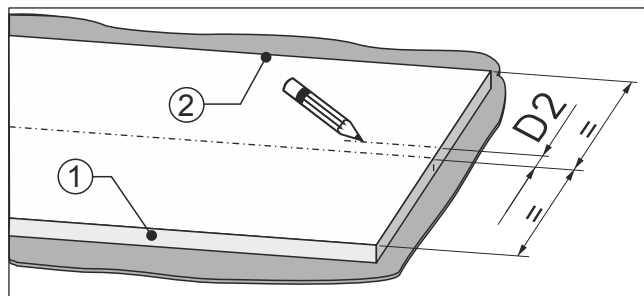

Fig. 88
- ▶ Measure Fig. 88 (D2) from the center of the cabinet front toward the hinge side Fig. 88 (2).